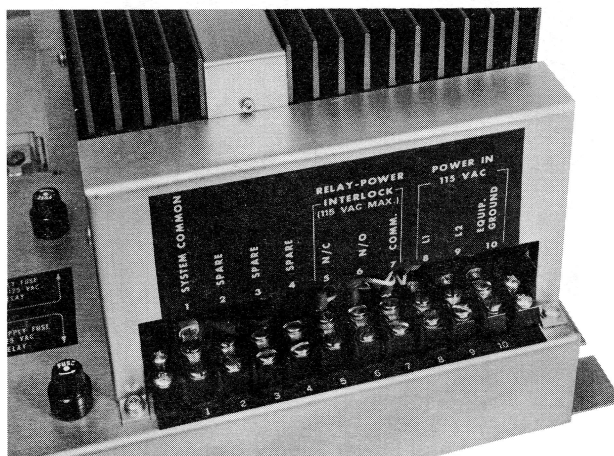
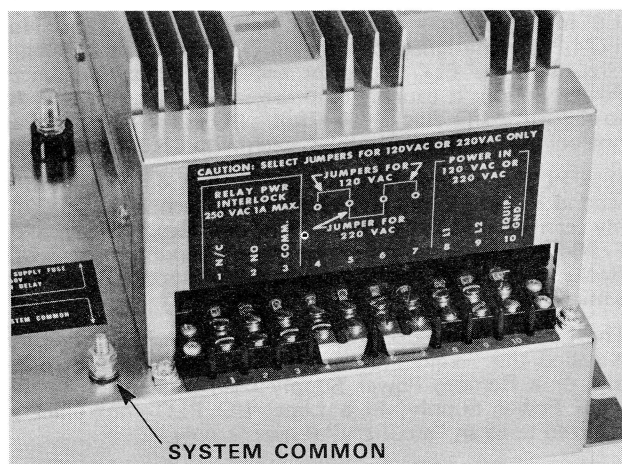

Figure 1 — Terminal Label, Series A Power Supply
Figure 2 — Terminal Label, Series B and C Power Supply
5.0 AC Input Connections — The AC input connections are made to a terminal strip on the Power Supply. Connection to the AC line is best accomplished by referring to the label attached to the terminal strip on the Supply. (See Figures 1 and 2.) L1 is the high side of the AC line (terminal No. 8). L2 is the low side (terminal No. 9). EQUIP GND is the ground (terminal No. 10).
the SYSTEM COMMON terminals of each Supply must be tied together. This assures that the total PLC controller has the same reference common. On Series A Local Power Supplies, this connection is at terminal No. 1 on the terminal strip. (See Figure 1.) On Series B or C Local Power Supplies, this connection is to a separate lug labeled SYSTEM COMMON. (See Figure 2.)
In order to use the Series B Local Power Supply, certain jumper connections must be made at the terminal strip. (Refer to Figure 2.) For 120V AC operation a jumper must be connected between terminals No. 4 and 5; and a jumper must be connected between terminals No. 6 and 7. For 220V AC operation, both jumpers should be connected between terminals No. 5 and 6.
10.0 Internal Relay — In the Local Power Supply there is an internal relay having normally open (NO) and normally closed (NC) contacts. The relay is automatically de-energized when the PLC controller outputs are disabled. The normally open and normally closed contact connections to this relay are brought out to the external terminals labeled RELAY-POWER INTERLOCK. (See Figures 1 and 2.) This feature permits user-supplied devices, such as alarms or indicator lamps, to be controlled by the Local Power Supply operating status.
14.0 Fuses — A 7 ampere fuse protecting the AC input circuit is located near the sockets on the Local Power Supply. (See Figure 2.)